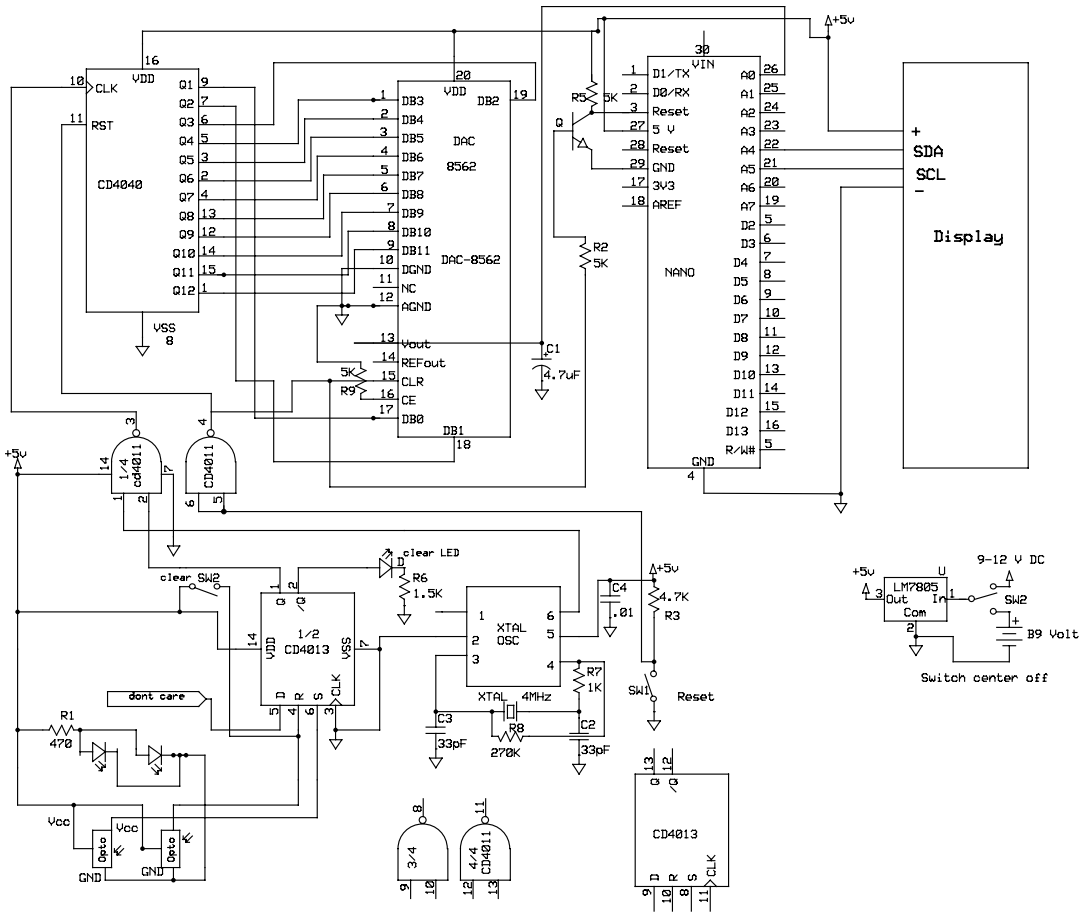

Figure 8-13: Schematic of the Full Ballistic Chronograph
Figures 8-13 and 8-14 show the schematic diagrams for the completed Full Ballistic Chronograph. Note the extra gates at the bottom. I included these in the schematic because they are available to you in the NAND gate and flip-flop IC packages suggested for this project, but my design does not use them. If you want to add functionality, they are available.
6. Mount the switches to the enclosure. Connect the switches and LED as shown in the schematic in Figure 8-13. Use pigtailed wires as indicated in step 3 of "Soldering the Full Ballistic Chronograph" on page 244.